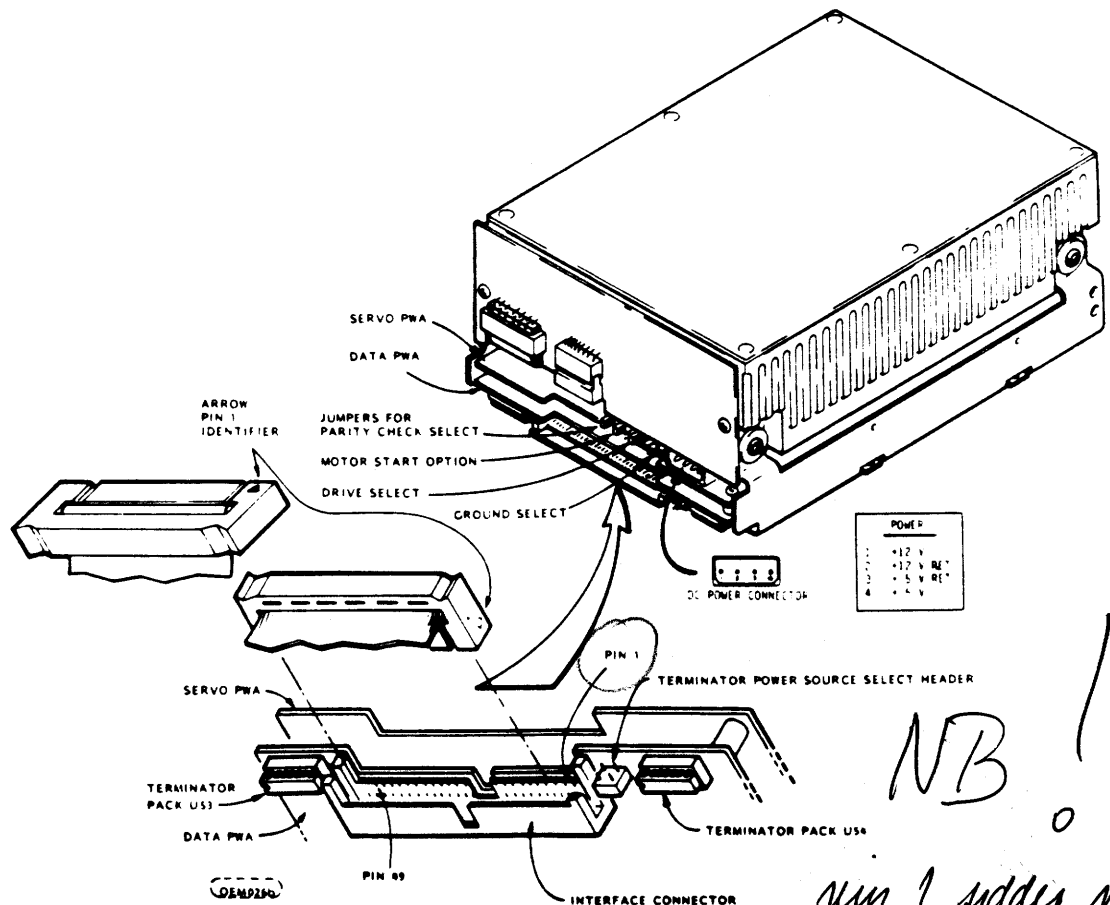

FIGURE 2-4a. I/O CONNECTION
The WREN IV receives DC power through a 4 pin right angle connector mounted on the Servo PWA (see Figure 2-4a). Recommended part numbers for the mating connector are listed, but equivalent parts may be used.
Drive Connector Part Number: Berg - 65496 - 031 or equivalent. See Figure 2-4a.
The logical address of the WREN is selected by installing a jumper in the appropriate location on the DRIVE SELECT header, which is accessible from the back of the drive, located on the Servo PWA (see Figure 2-4a or 2-4b). This selection is done at the time of installation.
Drives are normally shipped with termination resistor packs installed. Termination resistor packs should be removed from all daisychain drives except the drive in the last position of the daisychain. The terminator DIP (Dual Inline Package) resistor modules plug into DIP sockets at the rear of each drive, on the underside of the Data PWA, on each side of the interface cable connector. See Figure 2-4a. Drives may be ordered with or without terminator resistors installed. On the device at the head of the daisychain, an equivalent terminator must be provided on each input signal line. A Host/Adapter need not be the head of the daisychain, it can be a WREN or other device.
WREN IV SCSI models are configured via software over the SCSI bus, with the exception of the options selectable by installing jumper plugs on the header next to the D.C. power cable connector. See Figures 2-4a and 2-4b.
- [4] If the unit is not to be terminated, remove terminator resistor DIPs (see Figure 2-4a). If installed, the TP jumper must be installed only in one of the two positions shown in figure above.